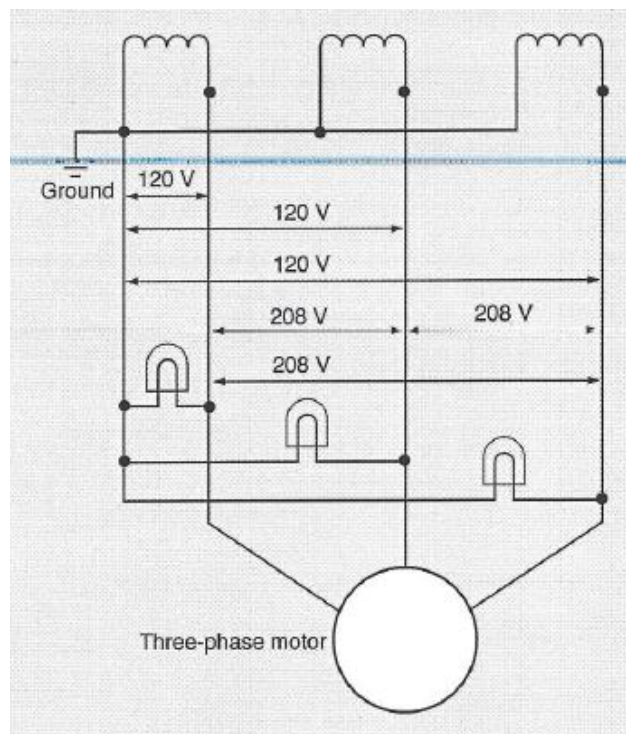

Figure 9.8: Four-Wire Y-Connection
- 9-36 Figure 9.8 shows the connection for a four-wire, Y-connected, three-phase system. The transformer bank supplies 120 V for lights and small appliances, and 208 V ( $208 = 120 \times \text{the square root of } 3$ ) for motors or other three-phase loads.